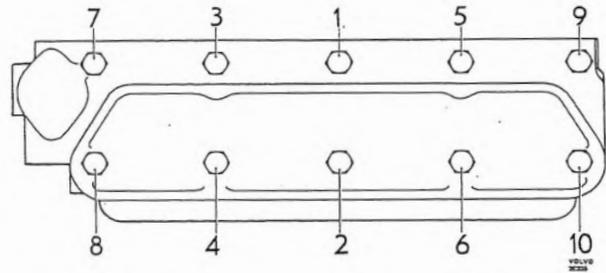
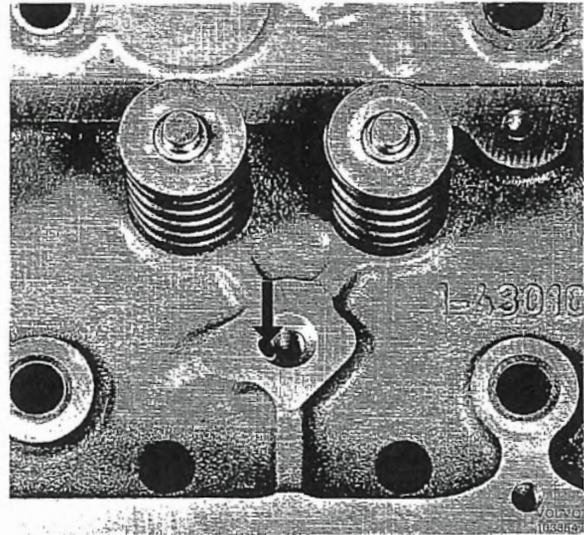
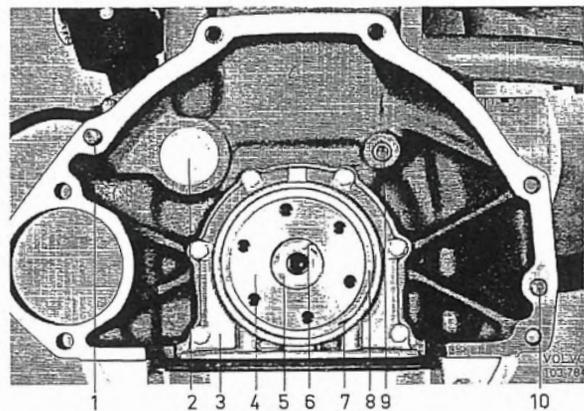

Fig. 2-17. Tightening sequence for cylinder head bolts
Fig. 2-18. Oil hole in cylinder head
Fig. 2-19. Rear end of engine
The cylinder head is fitted with the help of guide pins 2435. The bolts must be tightened in the sequence shown in Fig. 2-17, in order to avoid unnecessary stresses. Check that the oil hole (Fig. 2-18) for lubricating the rocker arms is clear. The pilot bearing (5, Fig. 2-19) should be lubricated before fitting with heat-resistant ball bearing grease. The bearing and protecting washer are held in position by a circlip (6).
the bolts in these holes as well. For tightening sequences, see Fig. 2-17. Tightening should be in two stages: 1st stage 40 Nm (29 lbft); 2nd stage 80 Nm (58 lbft); 3rd stage: after running the engine, see point 34.